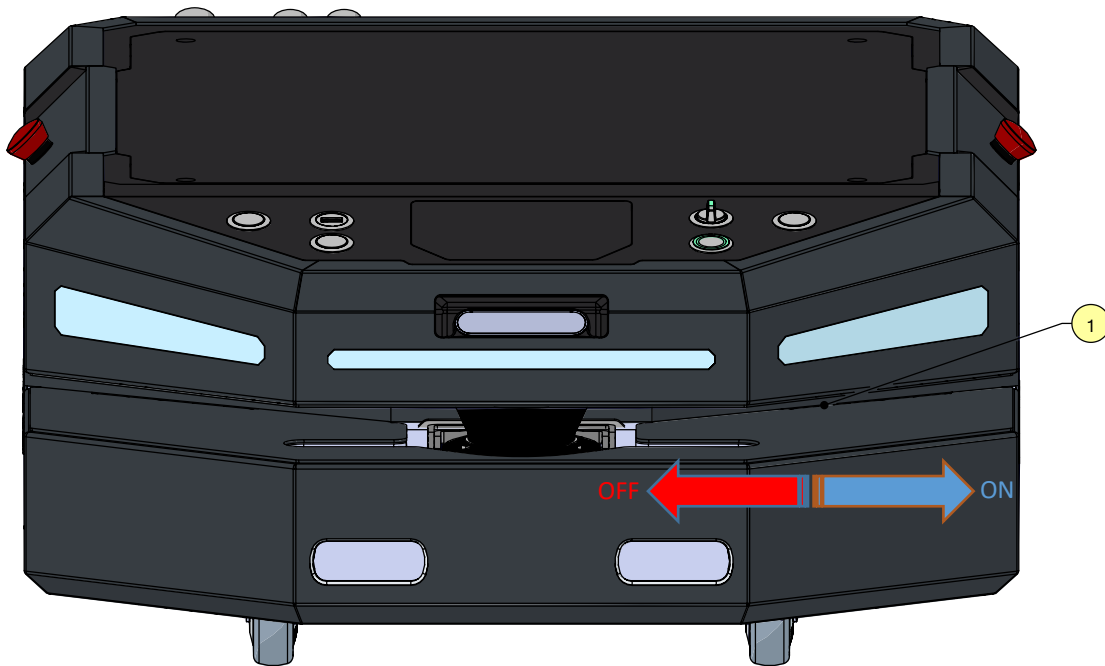

Figure 5.3: Location of main power switch on SEIT 100
- Switch the position of “main power switch” (1) as ON as in the *Figure 5.3*.